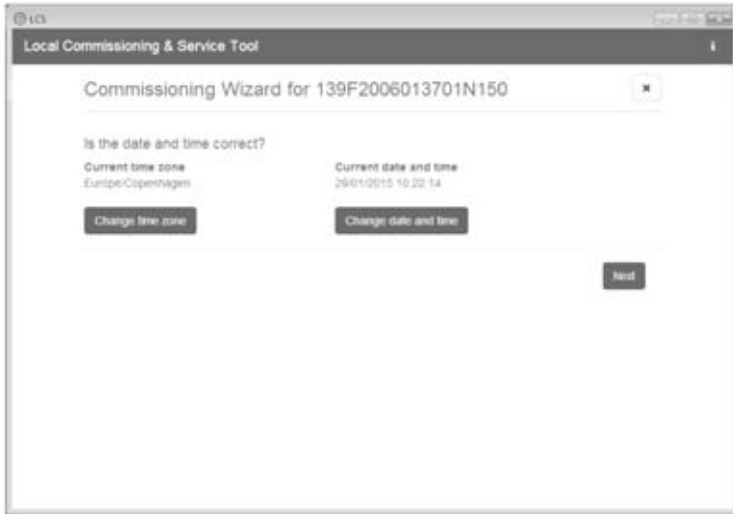

Figure 3.5 LCS tool - Verifying date and time
3. Verify that date and time are correct. If not, set date and time and continue. See figure 3.5.